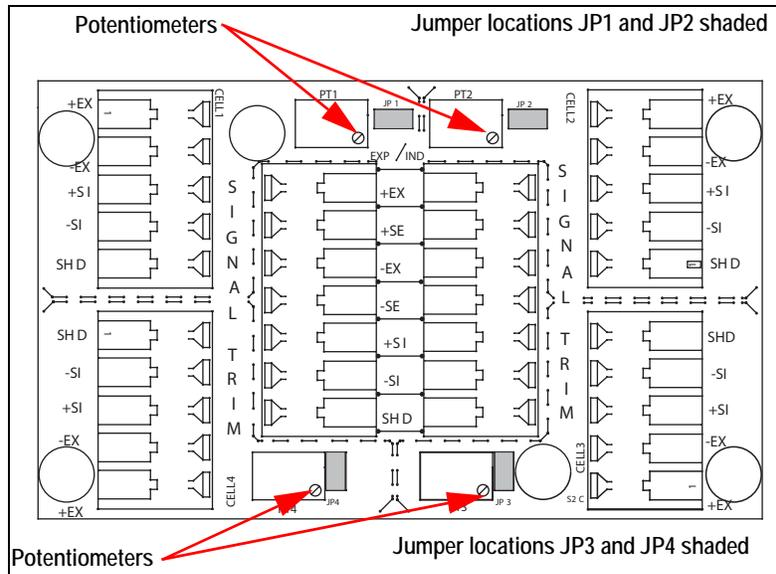

Figure 5. Signal Trim Main Board
1. Make sure jumpers are in place to enable trimming of the cells corresponding to each load cell. See Figure 5.